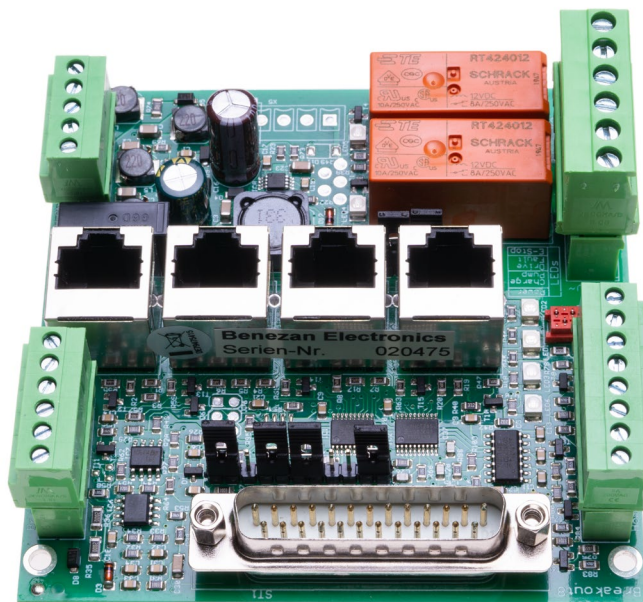

Fig. 10: Jumpering for use with Estlcam
- 1-2, 4-5, 6-7, 10-11 (see figure 10)